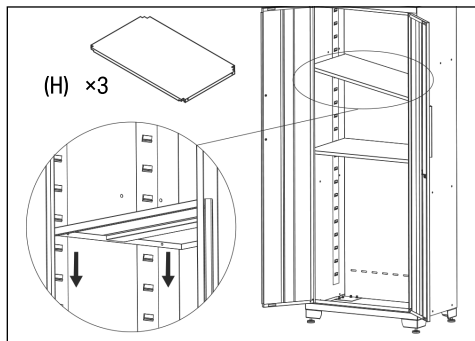

Fig. 6
7.5 Fitting The Tall Cabinet (1) Shelves (Fig.6)
- Slot the 3 shelves (H) into the cabinet.